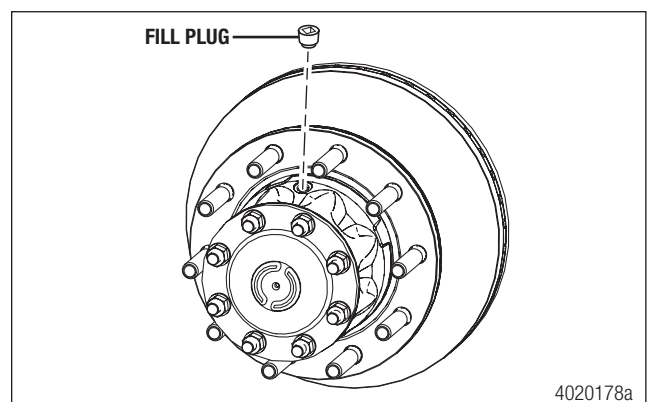

Figure 14
- g. If the hub is equipped with a fill plug, rotate the wheel end so the fill plug is facing up. Remove the plug. Add 0.79 quart (0.75 liter) of 75W-90 full-synthetic oil to the hub. Figure 14.